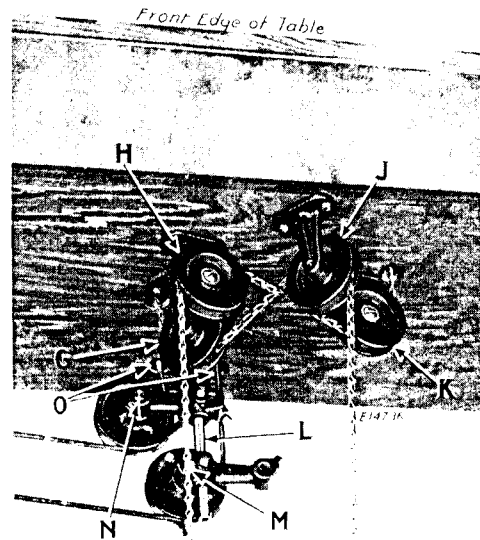

Fig. 6. Underside of Table, Showing Location of Idler and Treadle Chain Guides for Individual Singer Electric Motor Operation of Class 71- Machines
If the machine is to be driven by a pulley mounted on either a floor or table shaft to the rear of the idler bracket complete (L), the idlers and idler arm should be assembled with the pulleys mounted in the two holes of the arm furthest from the vertical rod hole, as shown at N, Fig. 6. Should it be necessary to drive the machine from a shaft lying between the rear of the machine and the front of the table, the two pulleys should be assembled with the pulleys mounted in the holes of the arms nearest to the vertical rod hole, as shown at M, Fig. 6.
The foregoing instructions should be followed with the exception that the belt idlers (L, Fig. 6) and arms must be assembled as illustrated in Fig. 6. The belt should be applied around the pulley of motor, around the idlers, up through the holes (O, Fig. 6) in the table and around the pulley of the machine.